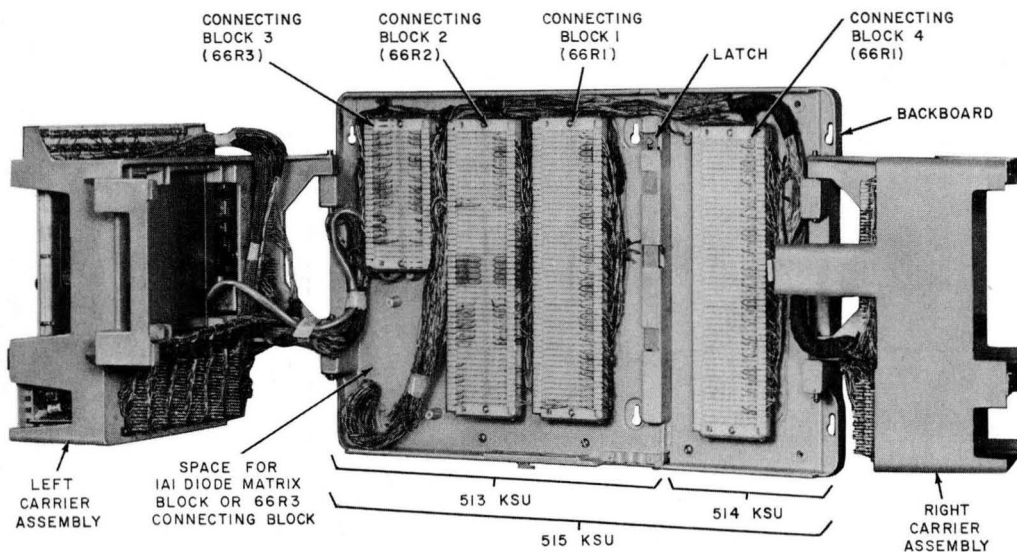

Fig. 2—515-Type Key Service Unit, Carrier Assemblies Open
- (d) 66-type connecting blocks mounted internally to connect internal and external cables and optional wiring (Fig. 2). Fig. 3 shows the terminal arrangement of the 66R-type blocks.